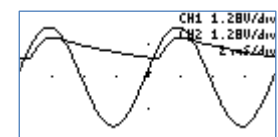

Figure 65: Half wave rectifier
- 5) The display should look like figure 65.